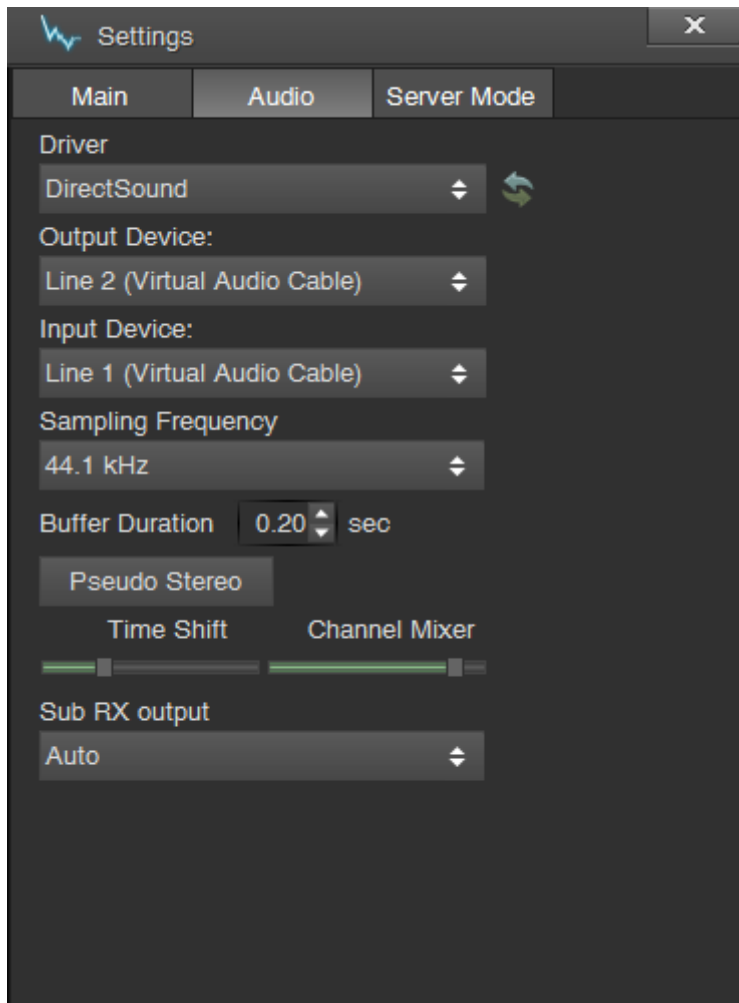

Figure 5: Here the audio settings had been made according to the above text. “Sampling frequency” may be also changed, I kept it at default.
- In this Window, click to “Audio”, see Figure 5.
The above text should apply also for similar software. Here are examples of some other software than FLDIGI, I just had at hand which had been tried out *in praxi*. For the controls of ZS-1 software see *Figure 4* and *Figure 5*.